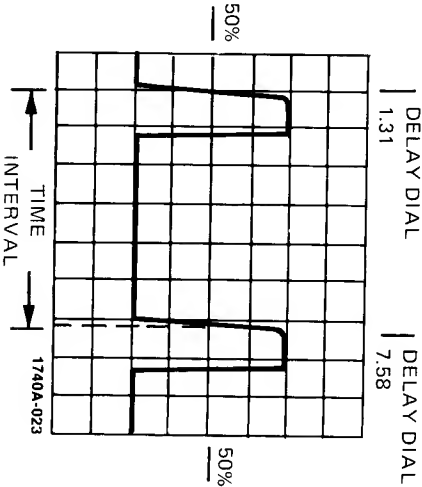

Figure 17d. Time Interval Measurement Using Delayed Time Base - Delay Dial Readings
**Example:** Assume the first DELAY control reading is 1.31 and the second DELAY control reading is 7.58 with the MAIN TIME/DIV control set to 0.5 ms and the DLY'D TIME/DIV control set to 0.05 ms (see figure 17d).